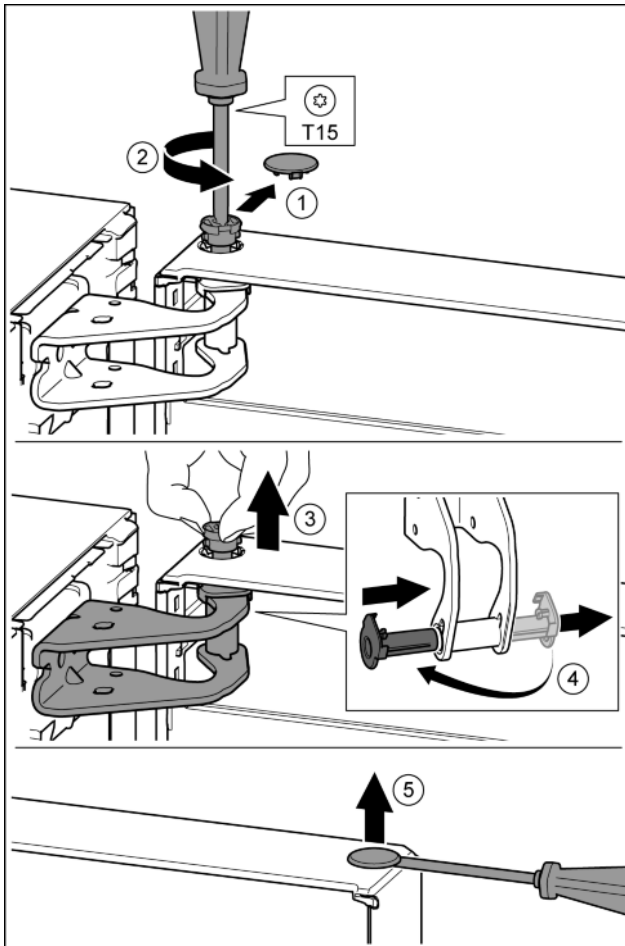

Fig. 8
- ▶ Carefully remove the protective cover. Fig. 8 (1)
- ▶ Undo the bolt a little with a T15 screwdriver. Fig. 8 (2)
- ▶ Hold the door and remove the bolts with your fingers. Fig. 8 (3)
- ▶ Pull the bearing bush out of the guide. Insert from the other side and click into place. Fig. 8 (4)
- ▶ Carefully lift the plugs out of the door bearing bush with a slotted screwdriver and remove. Fig. 8 (5)